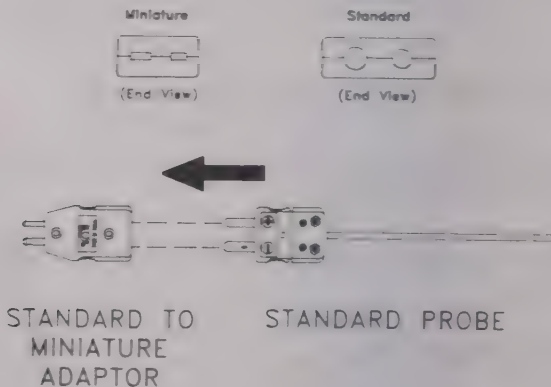

Figure 3-1. TAS Adaptor Application
4. If you are using a probe other than the provided Type-K beaded wire probes, or the optional push-button thermocouple handle, you may need to use a TAS transition adaptor. This allows you to convert from standard, round-pin connectors to miniature, flat-pin connectors. Refer to Figure 3-1.